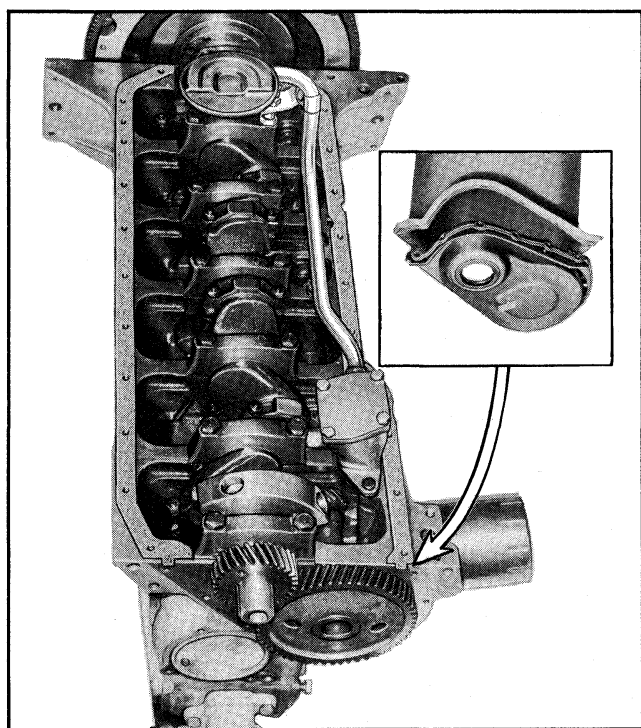

Fig. 6-52 Oil Pan Gaskets
4. Install side gaskets on cylinder block using grease as a retainer. (Side gasket tabs index into notches of front seal -- Fig. 6-52).